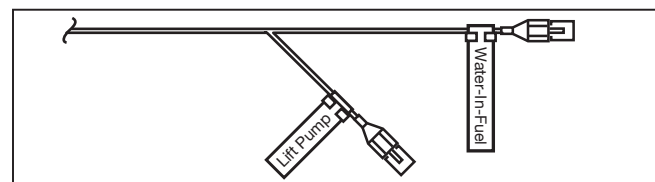

Figure 2 – Wiring Harness Connectors
7. Plug the Lift Pump and the WIF sensor electrical connectors into the on-engine harness. The connectors on the on-engine harness are labeled as shown in Figure 2.